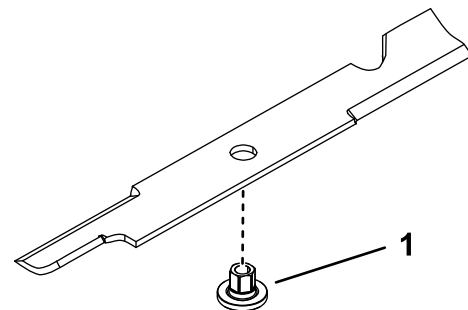

Figure 84
1. Install the bushing through the blade with the bushing flange on the bottom (grass) side of the blade (Figure 84).